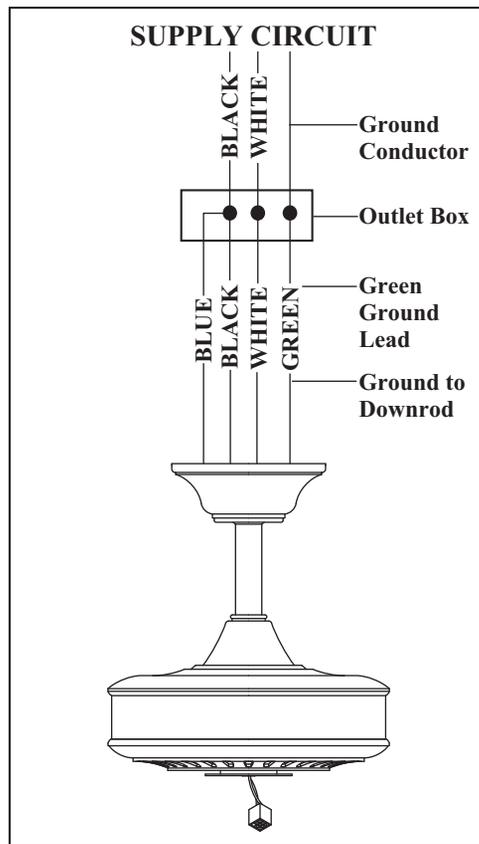

Figure 13
1. Connect the ground conductor of the 120V supply (this may be a bare wire or a wire with green colored insulation) to the green ground lead(s) of the fan (Figure 13).
2. Connect the fan motor white wire to the supply white (neutral) wire using a wire nut (Figure 13).
3. Connect the fan motor black wire to the supply black (hot) wire using a wire nut (Figure 13).